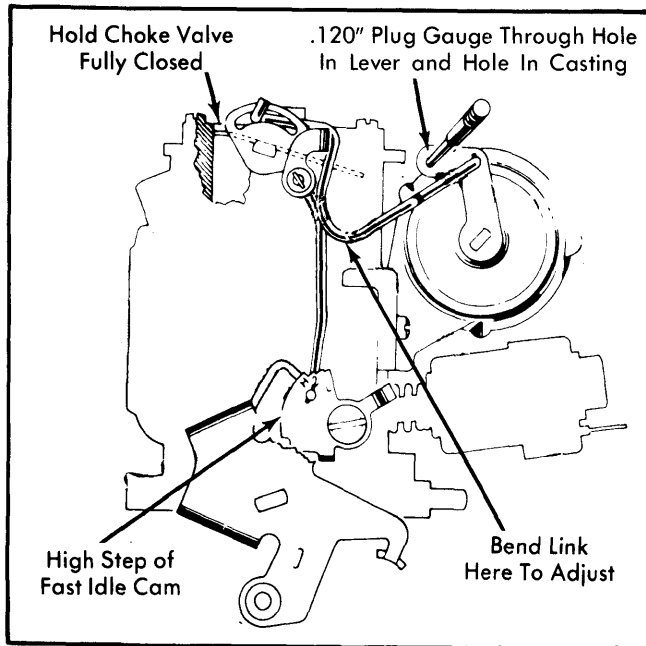

Fig. 3 Adjusting Choke Coil Lever
- 1) Place cam follower on HIGHEST step of fast idle cam. Hold choke valve closed. See Fig. 3.
- 1) Place cam follower on HIGHEST step of fast idle cam. Use outside vacuum source and apply enough vacuum to seat diaphragm. See Fig. 3.